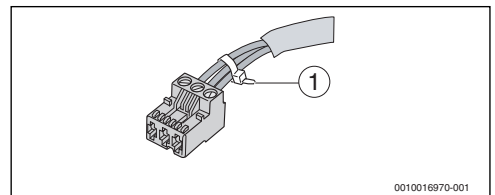

Fig. 14 Fixing the wires
- Fix together the wires of every cable connected. This can be done by stripping back a short section of cable sheath or with cable ties close to the terminals (→ Fig. 14).
- ▶ Fix together the wires of every cable connected. This can be done by stripping back a short section of cable sheath or with cable ties close to the terminals (→ Fig. 14, page 17).